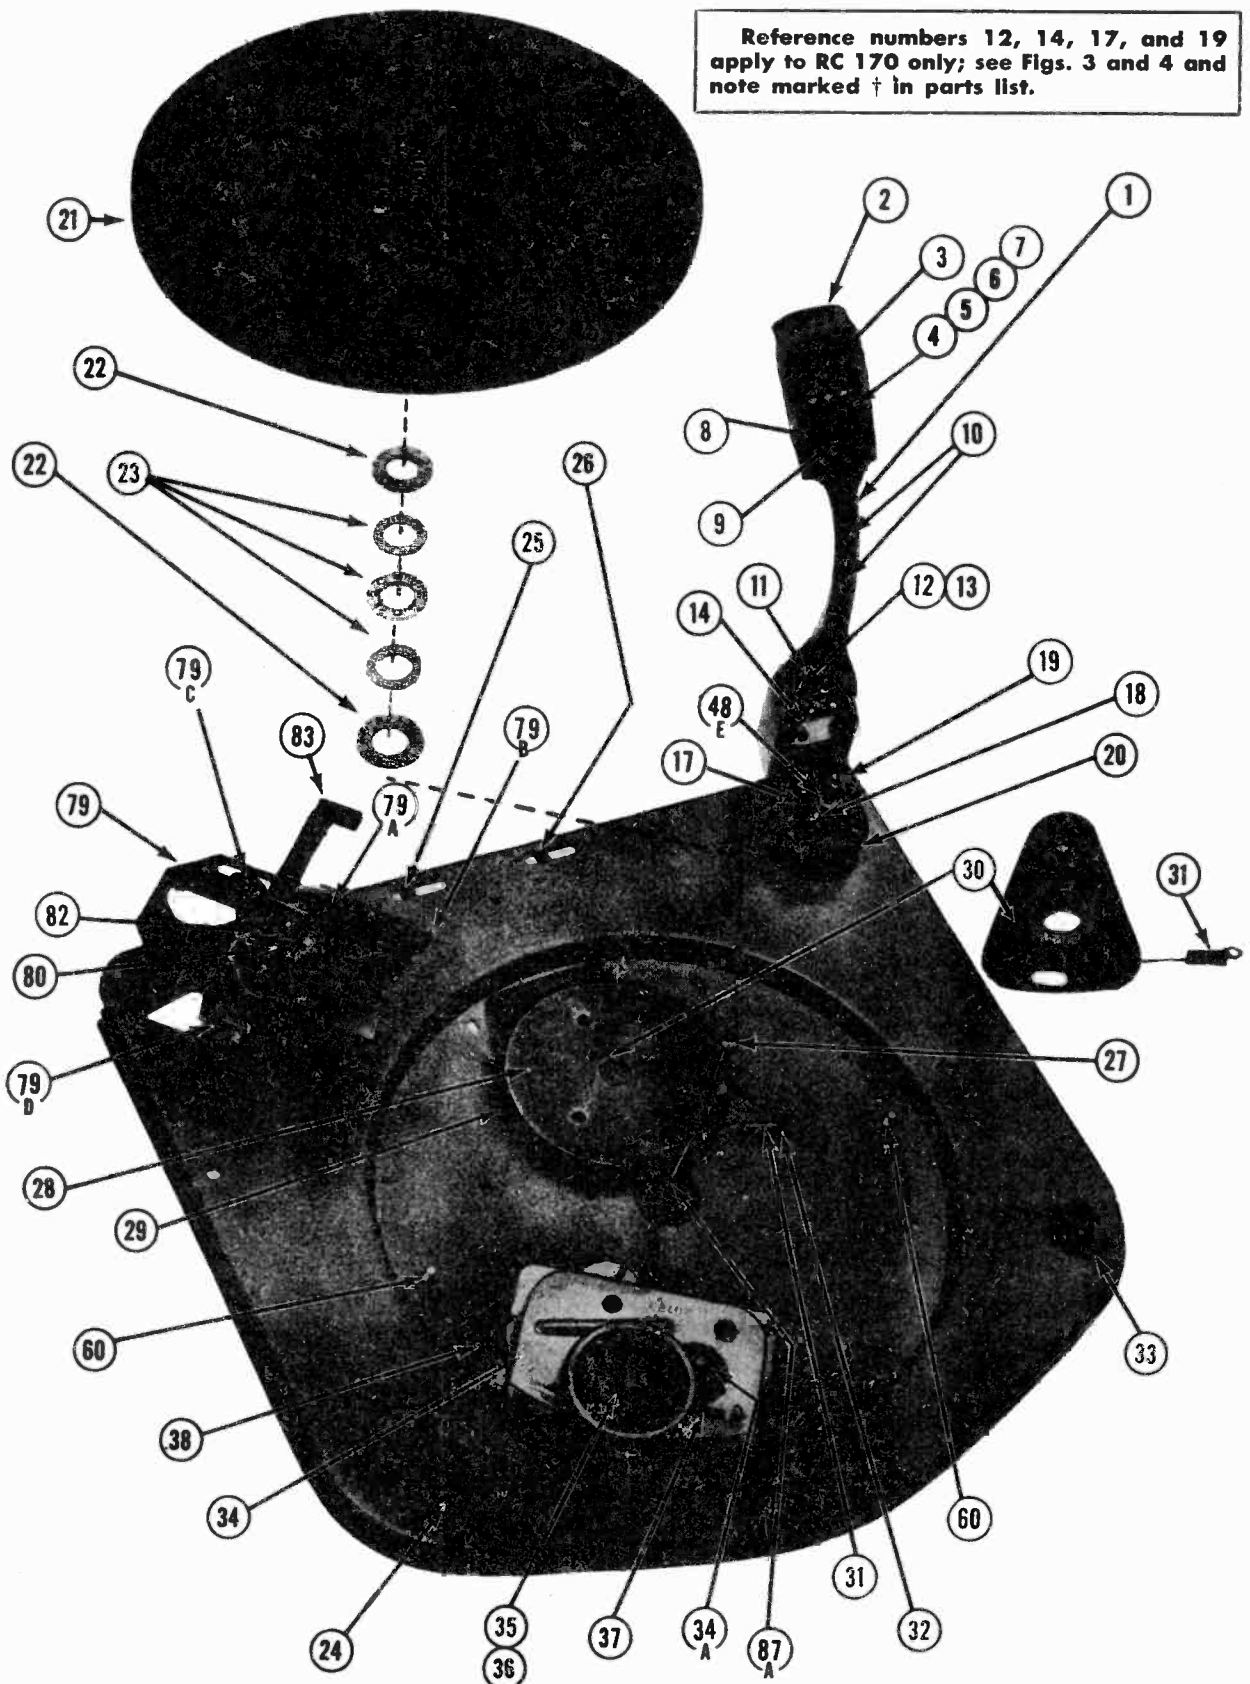

Figure 8. Top View of Record Changer
The changer operates as follows: The changer mechanism is driven during its change cycle by the knurled hub of the turntable rotating the rubber-tired drive wheel (28). During normal playing, the drive wheel is held in a neutral position as illustrated in Fig. 8 so that the indentation prevents the tire from contacting the knurled hub. The drive wheel (28) is held in this position by the trip lever (63) and the stop stud (65) on the main cam (66).
When a record has finished playing and the needle has reached the trip point, the arm control lever roller (48C, Fig. 7) makes contact with reject link (43A), moving the trip arm (43) which releases trip lever (63). The trip lever spring (62) moves trip lever (63) freeing cam stop stud (65) and allows spring (69) to pull the main cam clockwise (bottom view). Since the main cam (66) and the drive wheel (28, Fig. 8) are on the same shaft, the drive wheel is thus turned so its rubber tire is against the knurled hub of the turntable. The turntable now rotates the drive wheel (28) which in turn rotates the main cam (66). Roller (68), Fig. 7) riding on the main cam, moves arm control slide (52), and the raised portion (52A) of this slide raises arm lift shaft (This shaft is 19 on the RC170 and 103 on the RC170A.) which lifts pickup arm from the record. Stud (52C) moving with slide (52) pushes arm control lever (48A) causing the pickup arm to move to the right, clearing the record. The movement of roller (68) also causes trip lever (63) to re-engage in the recess of trip arm (43). Trip spring (61) holds the trip arm (43) and trip lever (63) together.
push-off plate 79A, Fig. 8. (Note that the record stack rests on plate 79A.) The shape of the main cam (66) is such that the push-off plate (79A) first moves back, allowing the bottom record to drop onto the record support plate (79B). Then the push-off plate (79A) slides forward and drops the next record to be played but only after the pickup arm has cleared the record stack. The little slide in the top end of the center post holds back all records other than the bottom one.
Adjust the 12-inch set-down with screw (25), Fig. 8. Turning screw (25) in (as seen through the left hand slot) moves the set-down point for 12-inch records further from the center post and turning the screw out moves it closer to the center post. The proper set-down point is between $5\frac{5}{8}$ " and $5\frac{1}{16}$ " from the needle to the near side of the center post.
The adjustment of the head assembly (79) is made by loosening the three screws, 85 (underneath the changer) and moving the assembly closer or further away from the center post as the case may be. The head assembly is in proper relationship to the center post when it is set with a dimension of $4\frac{7}{8}$ " from the front edge of the record support plate (79B, Fig. 8) to the rear of the center post (side nearest the record support plate) and at a point on the center post of the same height as the record support plate. This dimension is taken with the changer set to play 10-inch records.
The washers (22) and thrust bearing assembly (23) are removed by sliding them off of the centerpost. In replacing, have them in the order shown in Figure 8.
16. REMOVING BOTTOM COVER (100)